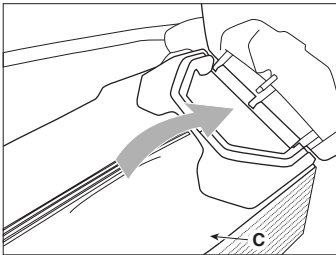

Figure 8
a. Preparation for grass cutting and collection in the grass catcher (Figure 8.C)